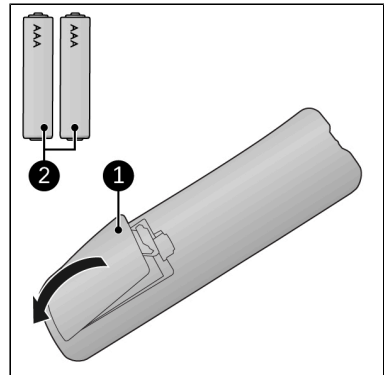

Figure 16.
1. Remove the cover (Figure 16, pos. 1).
3. Insert two batteries (AAA 1.5 V) (Figure 16, pos. 2) as indicated in the battery compartment. Make sure to insert the batteries correctly.